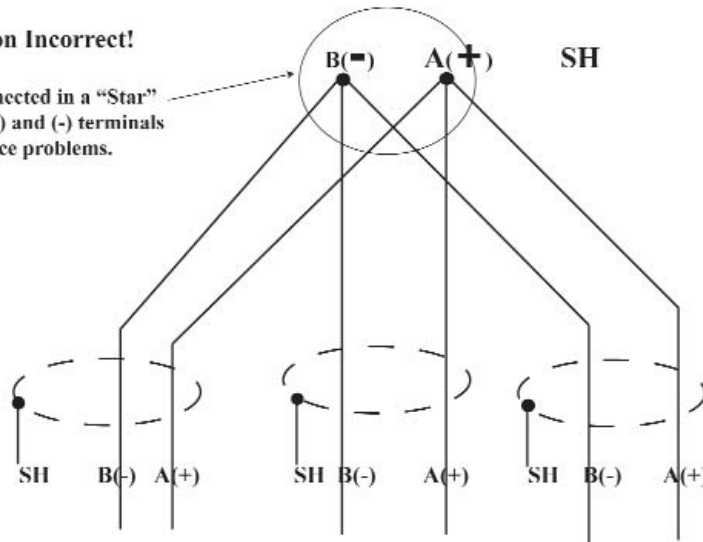

Figure 5.7: Incorrect "T" and "Star" Topologies
- Avoid both “Star” and “Tee” connections (see Figure 5.7).